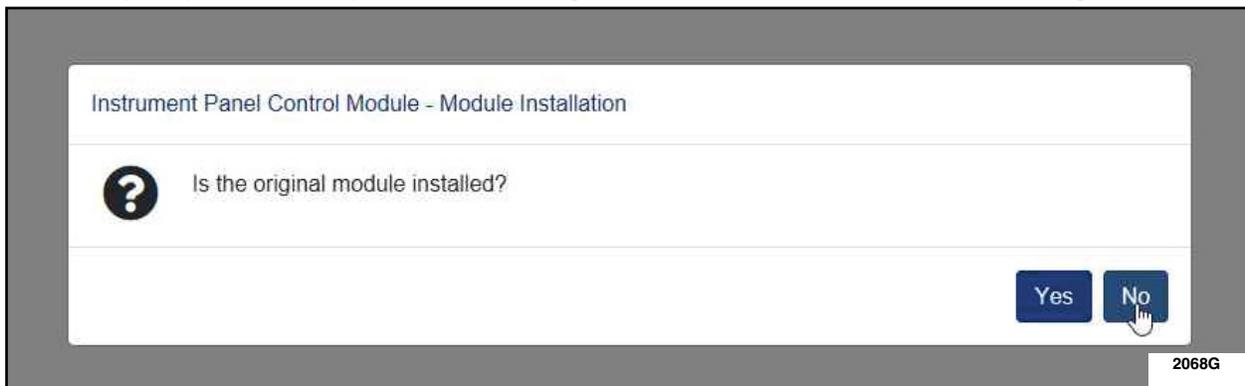

FIGURE 7
10. When prompted with the question "Is the original module installed?" select "No". See Figure 7.